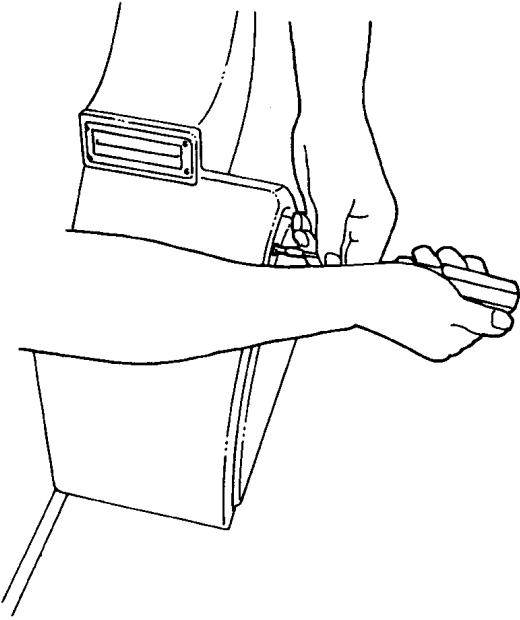

Figure 44 Bunk Blower Housing Cover (9800)
2. Remove cover from bunk blower housing (Figure 44).
6. Install cover on blower housing (Figure 44).